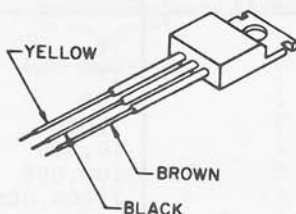

Figure 1
- [✓] Solder a 4", #24 gauge, yellow wire to the 7805 regulator as shown in Figure 1.
- [✓] Solder a 4", #24 gauge, black wire to the 7805 regulator as shown in Figure 1.
- [✓] Solder a 4", #24 gauge, brown wire to the 7805 regulator as shown in Figure 1.
- [✓] Solder a 4", #24 gauge, yellow wire to the 7812 regulator as shown in Figure 1.
- [✓] Solder a 4", #24 gauge, black wire to the 7812 regulator as shown in Figure 1.
- [✓] Solder a 4", #24 gauge, brown wire to the 7812 regulator as shown in Figure 1.